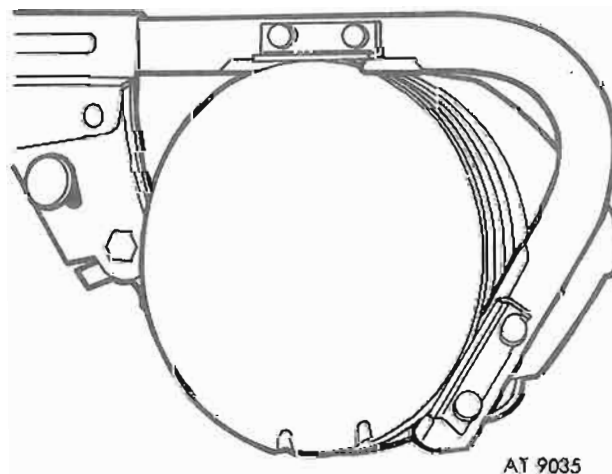

Figure 4-163. Cleaning piston ring grooves.
(1) Remove carbon deposits from the piston surfaces and from the underside of the piston head. Clean gum or varnish from the piston skirt, piston pins, and rings with solvent. Do not use a caustic cleaning solution or a wire brush to clean pistons. Clean the ring grooves with a suitable ring groove cleaner (fig. 4-163). Make sure the oil ring slots (or holes) are clean.
(2) Carefully inspect the pistons for fractures at the ring lands, skirt, pin bosses, and for scuffed, rough, or scored skirts.
(3) A shiny surface on the thrust surface of the piston, offset from the centerline between the piston pin holes, can be caused by a bent connecting rod. Replace pistons that show signs of excessive wear, wavy ring lands, fractures and damage from detonation or pre-ignition.
(4) Check the piston-to-cylinder bore clearance with a tension scale and gage and the ring side clearance following the recommended procedures.
(5) Replace piston pins showing signs of fracture or etching and / or wear. Check the piston pin fit in the piston and rod bushing.
(6) Replace all rings. Check the end gap and side clearance. It is good practice to always install new rings when overhauling the engine. Rings should not be transferred from one piston to another regardless of mileage.